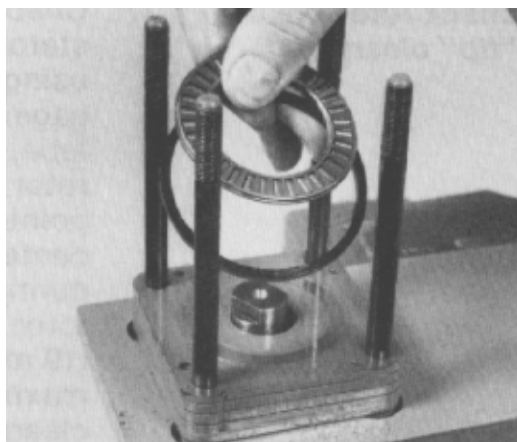

Figure 73
41. Remove the thrust bearing and bearing spacer from the upper cover plate (Fig. 73).